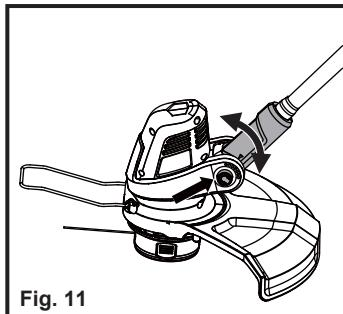

Fig. 11
1. Depress the pivoting head button and adjust the shaft to the desired angle (Fig. 11).